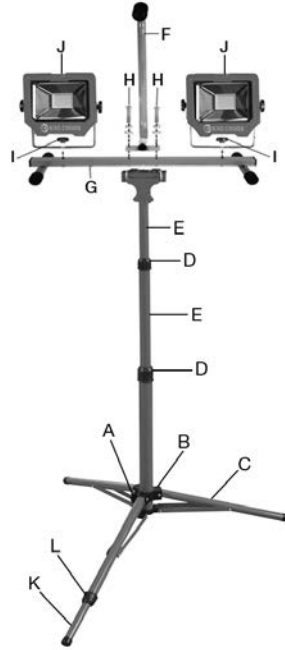

FIGURE 4
1. Loosen the tripod locking knob (A) Fig.4.
2. Push down the leg connector (B) until the legs (C) are fully extended, then firmly tighten the locking knob (A).
3. Adjust the height of the tripod by loosening the twist collars (D) and raising the center poles (E) of the tripod. Firmly tighten the twist collars when the tripod reaches the desired height.
4. For extra stability, pull out leg (K) and firmly tighten twist collar (L).
1. Place the carrying handle (F) Fig.4 vertically on the base (G).
2. Use two cap screws (H), flat washers and spring washers to secure the carrying handle on the base as shown in Fig.4.
1. Place the base (G) Fig.4 on a flat surface.
2. Use the lock knobs (I), flat washers and spring washers to secure both work lights (J) on the sides of the base as shown in Fig.4.